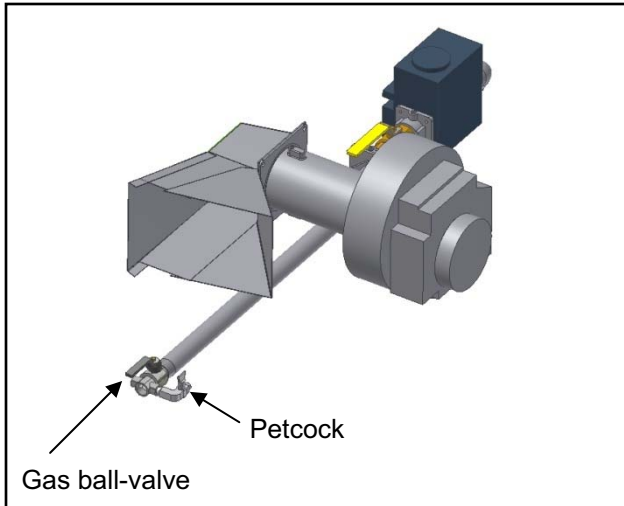

Figure 6.2. Atlas Combustion Assembly Without Burner
- 2) Close the pilot and main burner manual fuel shut-off valves, see figure 6.2.